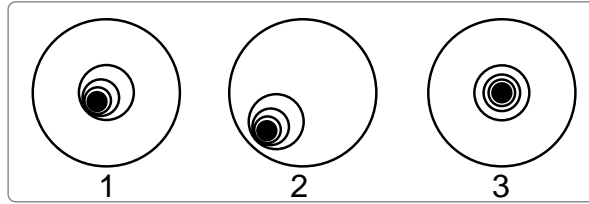

Fig. 33a: Defocused star images. Misaligned (1, 2), Aligned
- b. While looking at the defocused star image, notice which direction the darker shadow is offset in the ring of light or notice which part of the ring is the thinnest (1, Fig. 33a). Place your index finger in front of the telescope so that it touches one of the collimation set screws. You will see the shadow of your finger in the ring of light. Move your finger around the edge of the black plastic secondary mirror support until you see the shadow of the finger crossing the thinnest part of the ring of light. At this point, look at the front of the telescope where your finger is aiming. It will either be pointing directly at a set screw, or it will be between two set screws aiming at the set screw on the far side of the black plastic secondary mirror support. This is the set screw that you will adjust.
- c. Using the Autostar's Arrow keys at the slowest slew speed, move the defocused image to the edge of the eyepiece field of view (2, Fig. 33a), in the same direction as the darker shadow is offset in the ring of light.
- f. When you bring the image to center (3, Fig. 33a), carefully examine the evenness of the ring of light (concentricity). If you find that the dark center is still off in the same direction, continue to make the adjustment in the original turning direction. If it is now off in the opposite direction, you have turned too far and you need to turn in the opposite direction. Always double check the image in the center of the field of the eyepiece.